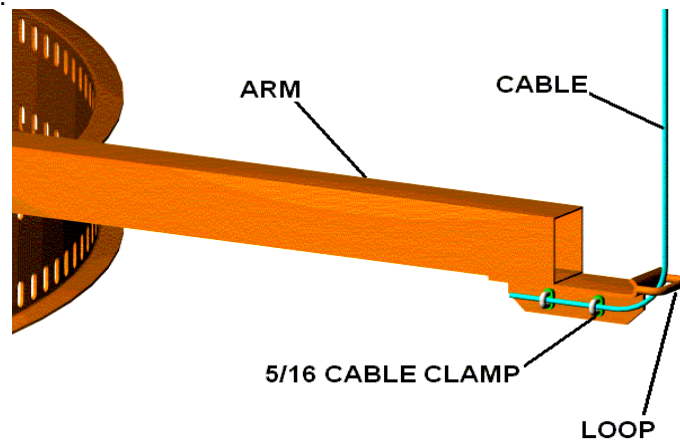

FIGURE 16
1. Loosely assemble (2) 5/16" Cable Clamps to the bracket welded to the bottom side of each of the tri-arms. Assemble with the clamp casting against the bracket. Route the cable through the loop on the ends of the arms and through the (2) cable clamps. Snug the clamps tight enough to hold the weight of the arms and rings. See Figure 16.